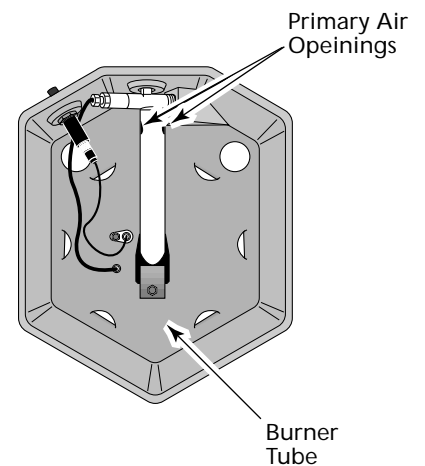

Figure 7 - Bottom View of Heater
Look through the ventilation holes in the top of the heater to see the burner flame. The burner flame should be mostly blue with slight yellow coloring on the ends. If the burner flame is mostly yellow, the primary air openings on the burner tube under the heater base may be blocked (See Figure 7).
2. Turn heater over to locate the primary air openings on the burner tube (See Figure 7). Remove any debris blocking the primary air openings.